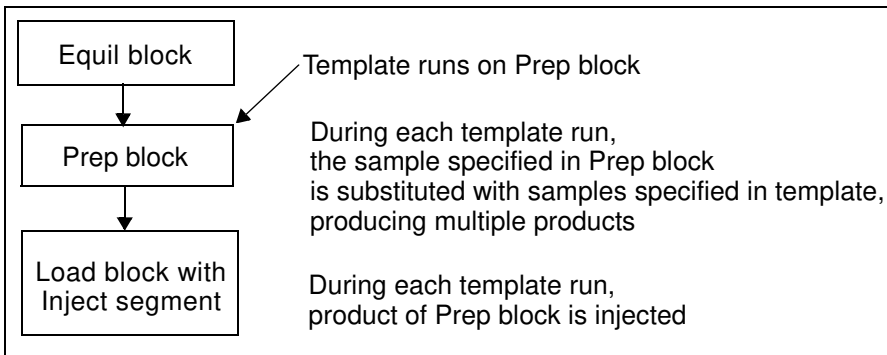

Figure 7-8 Using Analysis Template for Preparation
- **Preparation**—Inject multiple samples that require sample preparation using the same method. Your autosampler must support sample preparation (Figure 7-8). See example on page 7-26.
<p>Preparation—Inject multiple samples that require sample preparation using the same method (Figure 7-8)</p> <p>NOTE: An example of using the Analysis template for this application is shown on page 7-26.</p>	<ul style="list-style-type: none"> • An AS 3500 integrated autosampler that supports the sample preparation option is configured • Sample vials are loaded in the AS 3500 autosampler and entered in the Sample Table • Method contains a Prep block followed by a Load block with an Autosampler Inject segment • Autosampler Inject segment injects the product (Derived vial) of the Prep block <p>NOTE: If you add a Combine segment to the Prep block, the first sample you add to the Combine Segment Setup dialog box is the sample that is substituted during each template run.</p>